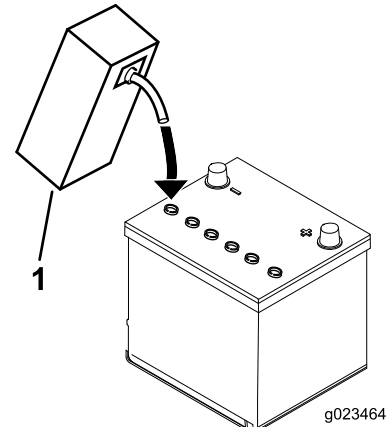

Figure 6
3. Carefully fill each cell with electrolyte until the plates are covered with about 6 mm (1/4 inch) of fluid (Figure 6).
5. Refill as necessary to bring the electrolyte to within about 6 mm (1/4 inch) of the bottom of the fill well (Figure 6).